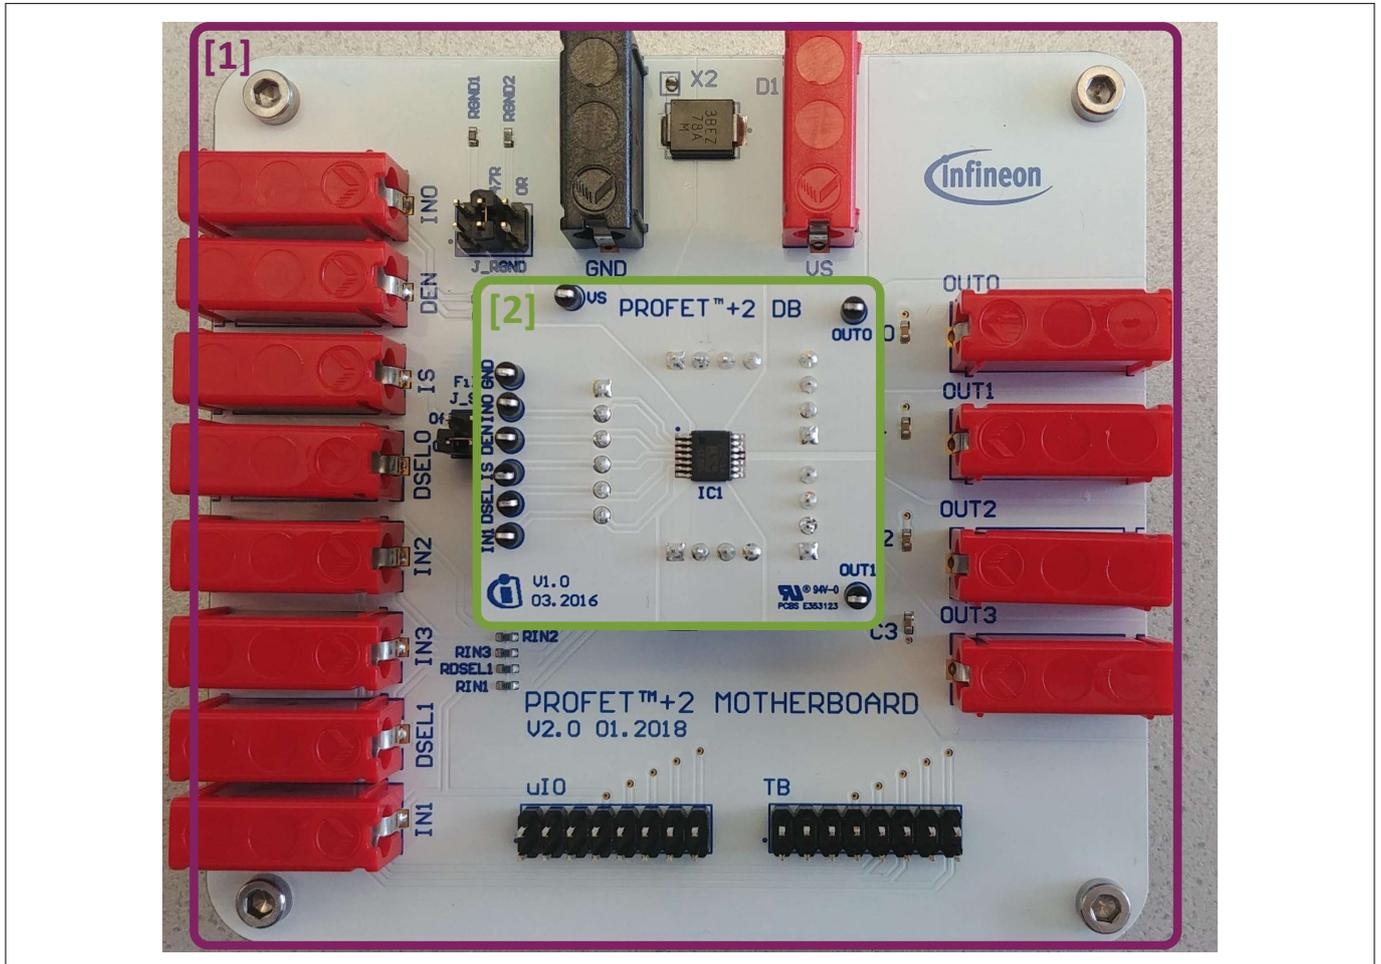

Figure 1 PROFET™ +2 12V MB [1] and DB [2]
The PROFET™ +2 12V customer evaluation kit consists of a motherboard (MB) and a daughterboard (DB). Figure 1 below shows the DB [2] plugged onto the MB [1].
1	PROFET™ +2 12V motherboard (see Figure 1)
2	PROFET™ +2 12V daughterboard (see Figure 1)